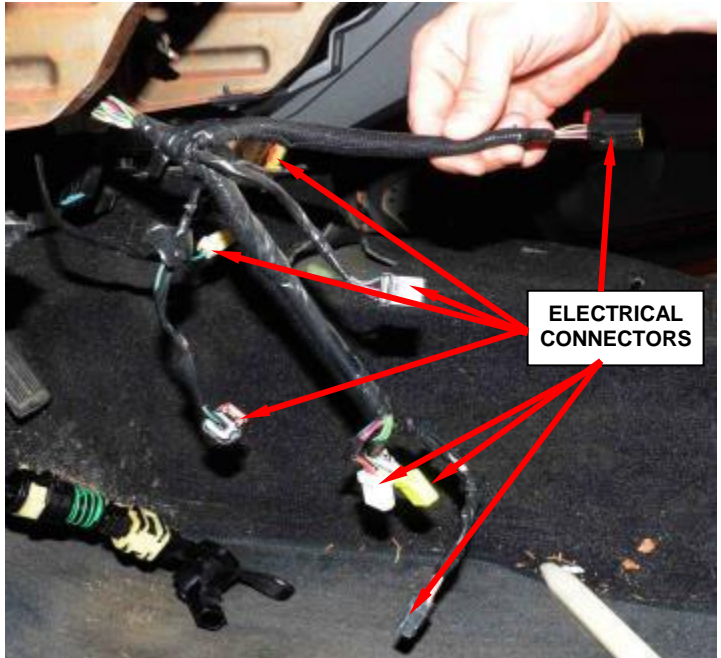

Figure 73 – Column Electrical Connectors
12. Disconnect the wiring harness electrical connectors from the column (Figure 73).